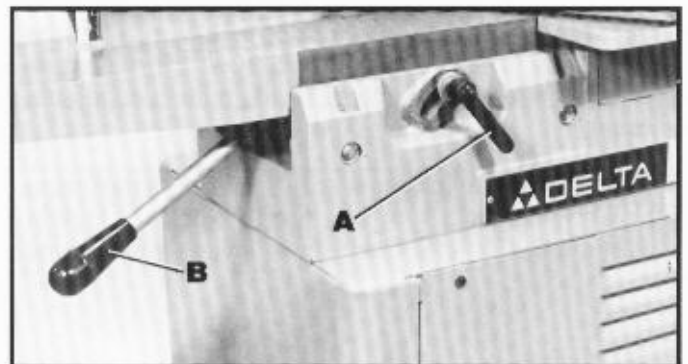
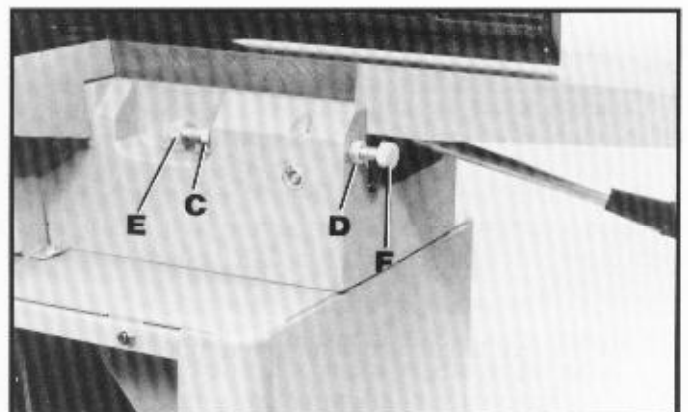

Fig. 27
Fig. 28
For most jointing operations the outfeed table must be exactly level with the knives at their highest point of revolution. To move the outfeed table, loosen lockhandle (A) Fig. 27, and move the table raising and lowering hand lever (B) up or down until the table is level with the knives.
It may be necessary to adjust the positive stops. Loosen the two locknuts (C) and (D) Fig. 28, and the two adjusting screws (E) and (F) when moving the table up or down.
When the table is exactly level with the knives at the highest point of revolution, tighten lockhandle (A) Fig. 27, and turn adjusting screw (E) Fig. 28, until it bottoms; then tighten locknut (C). Screw (F) is also a positive stop for the lower limit of the outfeed table. We suggest that this stop also be tightened when the outfeed table is set level with the knives. This will prevent the outfeed table from accidentally being lowered.